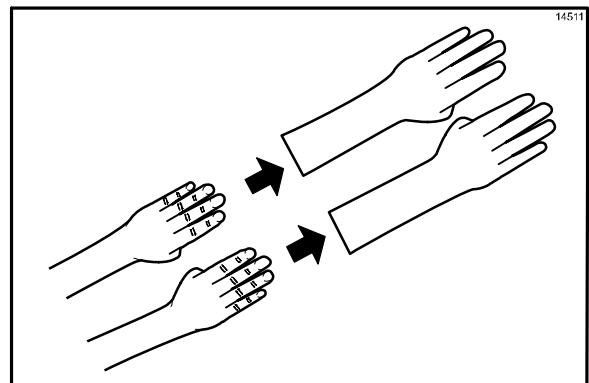

Figure 19
7. Put on heat-resistant gloves. (See Figure 19.)